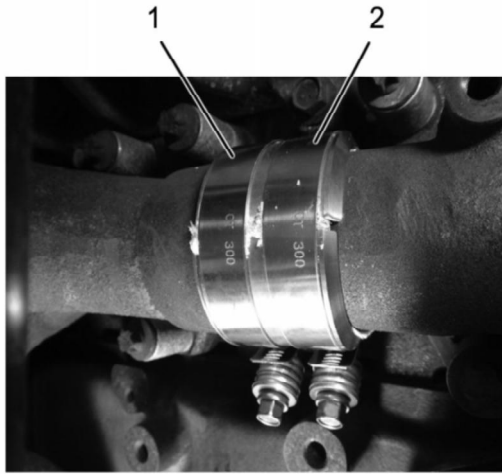

Figure 25: Front Exhaust Manifold Ring Seal
26. Remove and discard failed front exhaust manifold ring seal(s) if applicable (Figure 25, Items 1&2)